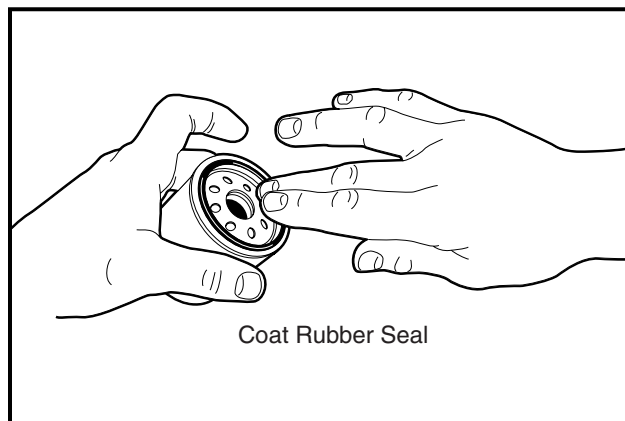

Figure 10-8 Replace Engine Oil Filter
8. Relocate the oil drain pan to a position under the engine oil filter (**Figure 10-8, Page 10-6**).